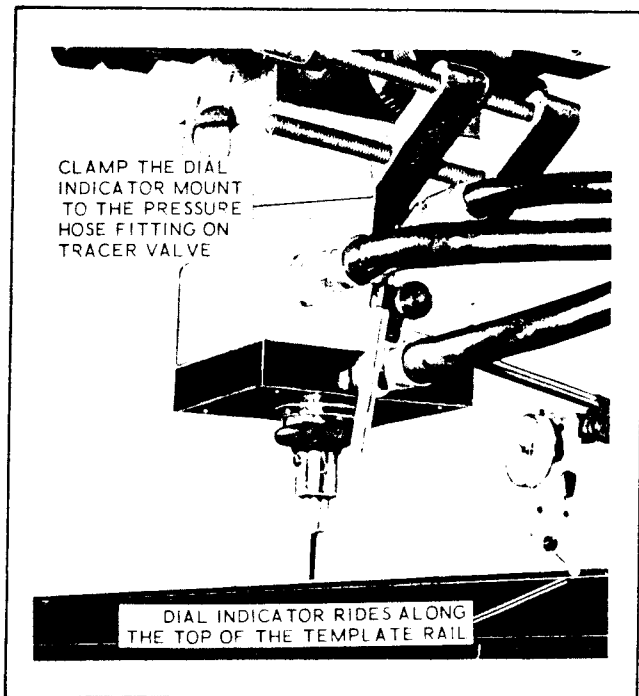

Figure 2-26. Dial Indicator Attached to Tracer Valve for Indicating Template Rail
- (1) Attach a dial indicator to the tracer valve as shown in figure 2-26.
- (2) Turn on the hydraulic power unit and center the travel limit indicators on the top and bottom slide assembly.